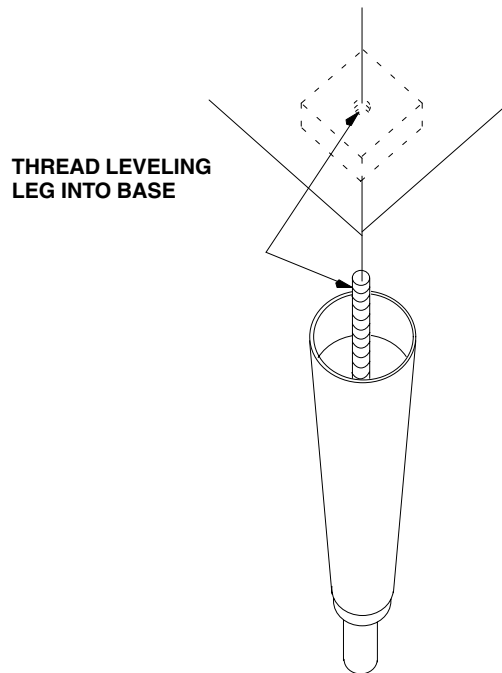

FIGURE 2
2. Set the bin up on its legs. Place the bin in its final location and level it with the adjustable feet in the legs. (See Figure 2).